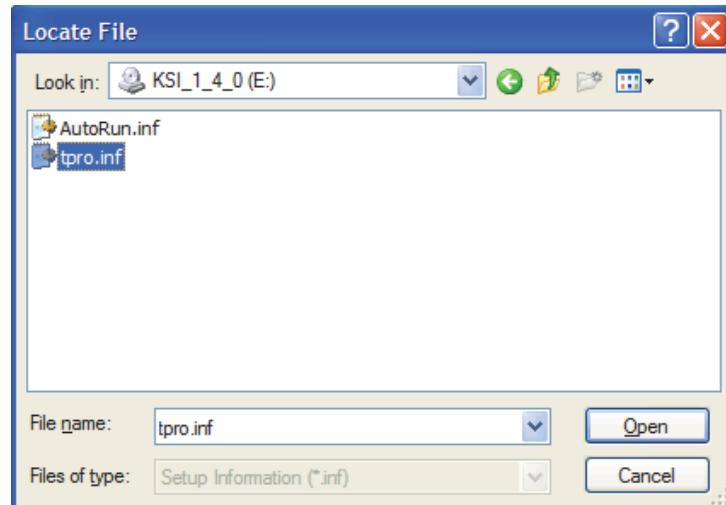

Figure 5-11. Locate File Dialog Box
8. Select the CD-ROM device (E:\). In the CD-ROM, select **tpro.inf** and select **Open**. See Figure 5-11.